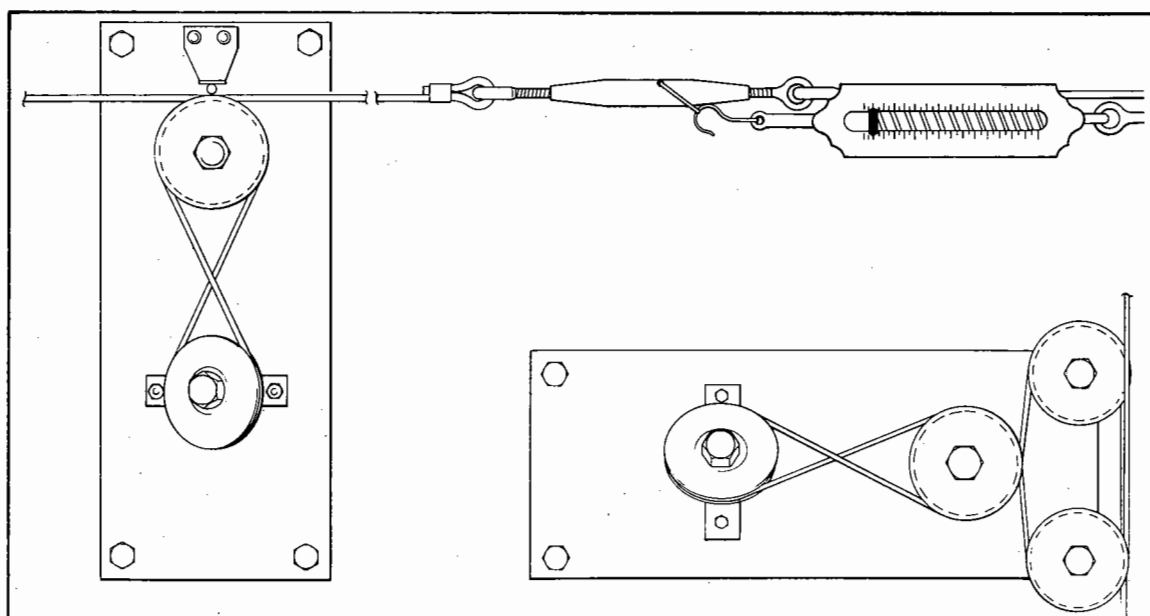

Figure 10-1. III Series Trim Servo Clutch Adjustment
- a. Attach a 0-50 lb. spring scale to the trim tab cable which is attached to the trim servo. (Refer to Figure 10-1.)